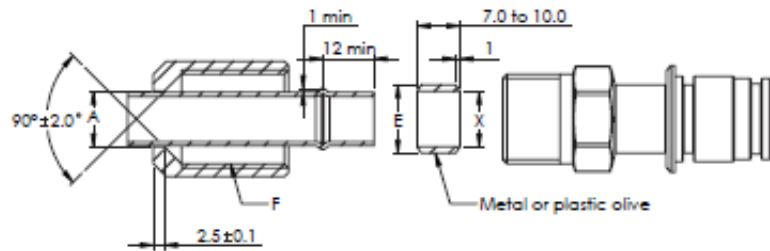
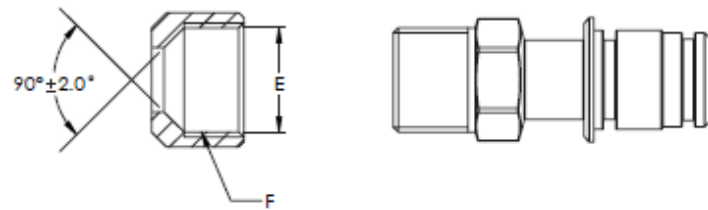
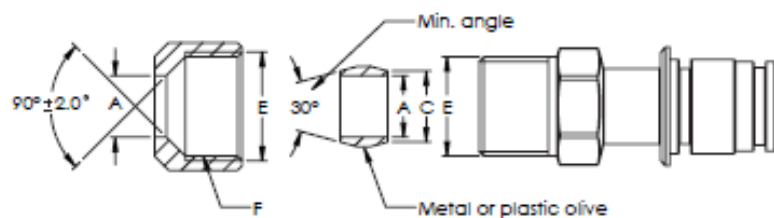

Figure 1 - Straight Copper Tube
Figure 2 - Braided Hose with Seal
Figure 3 - Braided Hose Without Seal
The Inlet (6) and Outlet (7) water connections are both ½" BSP SERIES GB. There are three options for inlet/outlet connections with this unit – see Fig 1, Fig 2, and Fig 3 below: